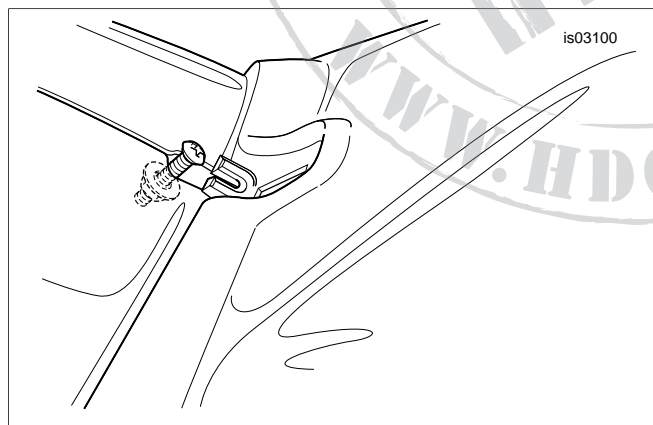

Figure 7. Wind Deflector Assembly to Nacelle (FLHRS Models)
- d. See Figure 7. Holding the screw assembly, reach inside the headlamp nacelle and insert **just the screw head** up through the opening to engage the slot in the tab at the front of the wind deflector. The nut and flat washer should remain inside the nacelle. Tighten the screw to 10-20 **in-lbs** (1.1-2.3 Nm).